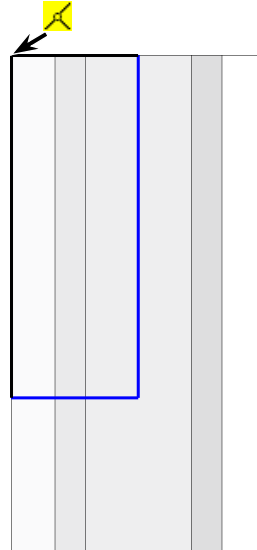

Fig. 26
Step 5. Sketch **corner rectangle coincident**  with rear left corner, **Fig. 26**.